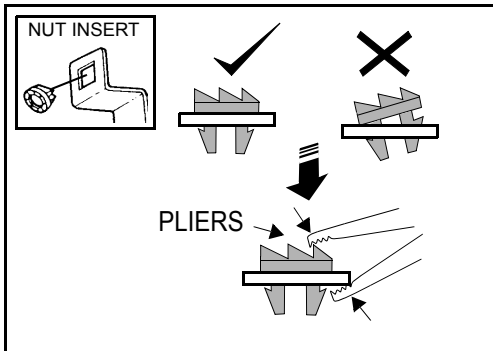

Figure 9.
9. Snap one of the nut inserts into each of the two metal clips. See figure 9